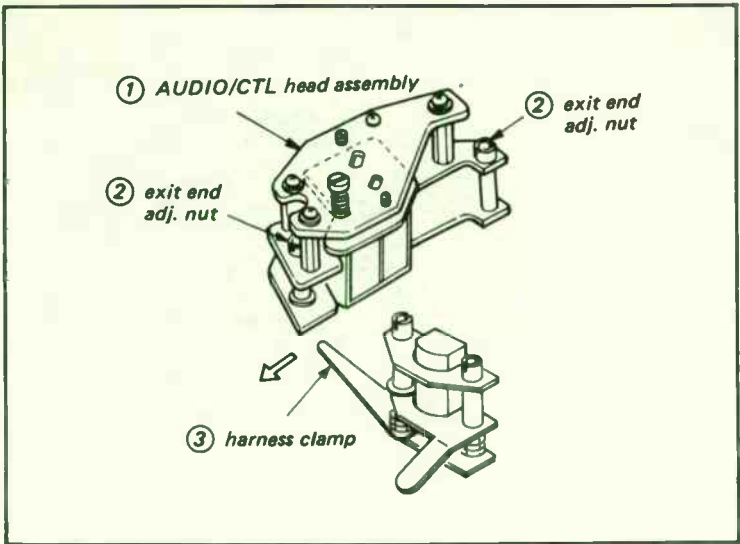

Fig. 5-26. Audio/control head assembly.
1—Move harness clamp (3) as shown in Fig. 5-26 in the direction shown by the arrow.
3—Lift audio/control head assembly (1) and unsolder the leads of the head (see Fig. 5-26).